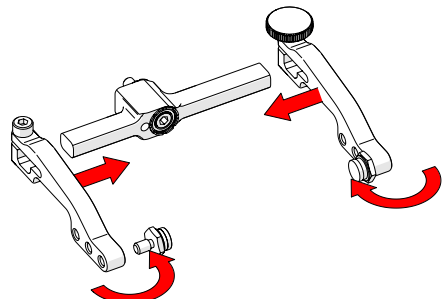

Fig. 78 - Attach arms & move buttons
5. Place the pivot buttons on the inside of the probe holder arms (Fig. 78) using a 3/8 in wrench (Fig. 15).